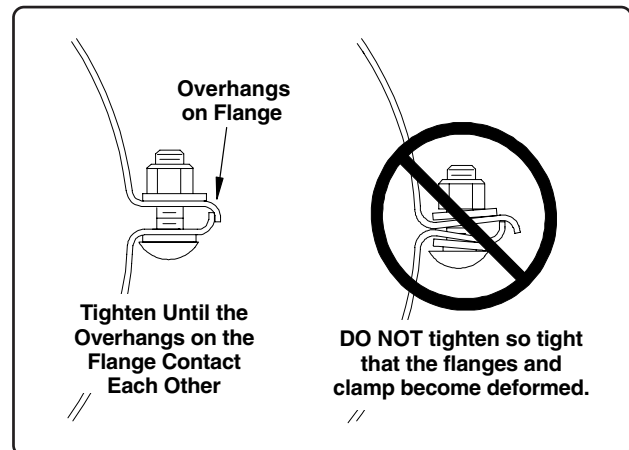

Fig. 21
Repeat this process on each connecting band until all bolts are tight and the overhang on the flanges are tight together (See Fig. 21).
**IMPORTANT!** The overhangs on the flanges are meant to be tight against each other, but **Do Not** tighten so tight that the flanges are crushed and become deformed (See Fig. 21). **NOTE:** If it is impossible to get the connecting band tight on the auger tube without overly deforming the clamp, a new connecting band may be necessary.